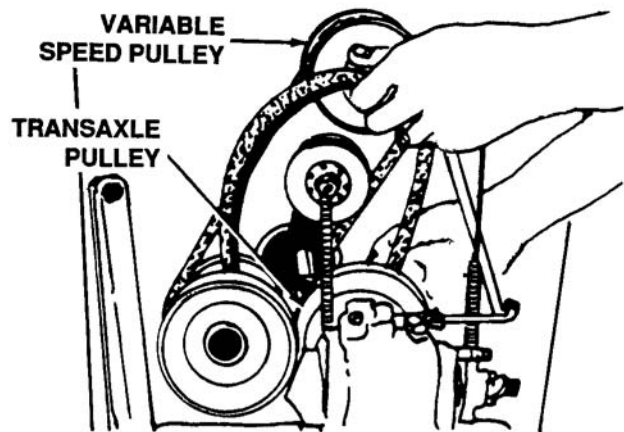

Figure 7-15. Location of V-Belt Pulleys
7. Slip the V-belt off the variable speed pulley and transaxle pulley. See Figure 7-15.